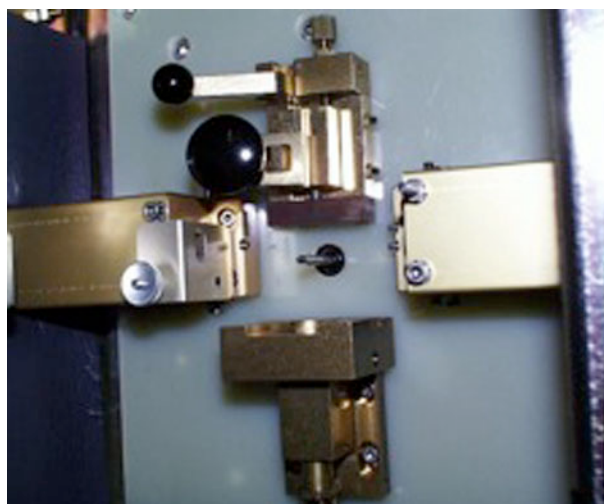

Figure 2-22, "L" Bracket Installed Covering Lens Assembly
4. Relocate the "L" bracket over the lens assembly of the routine optic located to the left of the analytical gap, Figure 2-22. Use the round knurled nut to fasten it in the new location. This will help to keep the lens assembly clean during the sulfur analysis.